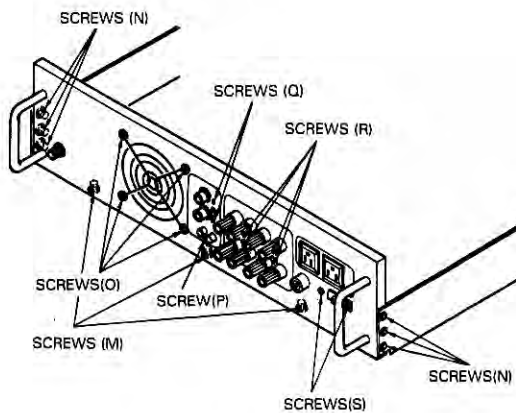

Fig. 5
- (e) Removal of Vol VR PCB. (Fig.5)
- (a) Removal of Rear Cover. (Fig.5)
- (b) Removal of Fan. (Fig.5)
- (c) Removal of Phone Jack. (Fig.5)
- (d) Removal of Slide Switch. (Fig.5)
- (e) Removal of Speak Terminal. (Fig.5)
- (f) Removal of Voltage Selector. (Fig.5)